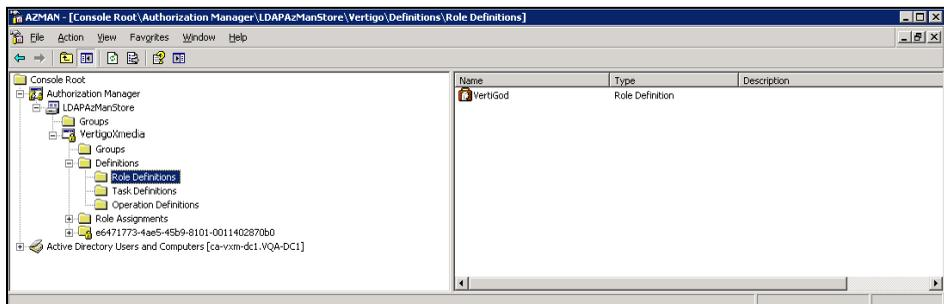

Figure 19-23. The role definitions that belong to AzMan's VertigoXmedia application
7. Select the **ROLE DEFINITION** node. The right-side panel should now be populated with VertigoXmedia role definitions (figure 19-23).